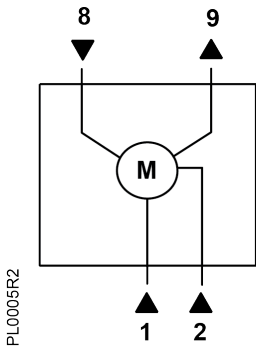

Figure 13. 0 to 10V Modulating Control.
2. Set the self-adapt DIP switch to  (ON). See Figure 13.